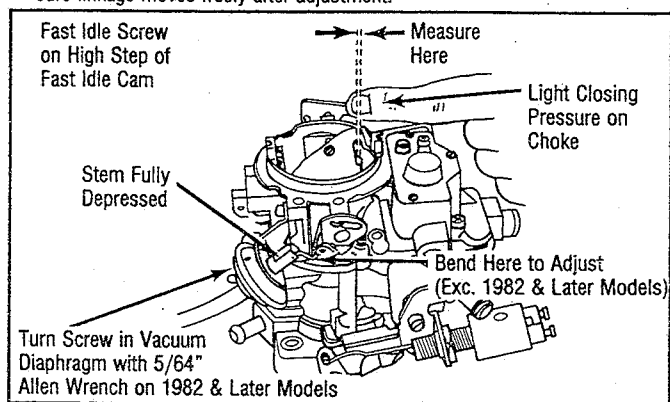

Fig. 6 Choke Vacuum Kick Adjustment
- Place fast idle speed screw on highest step of fast idle cam. See Fig. 6.